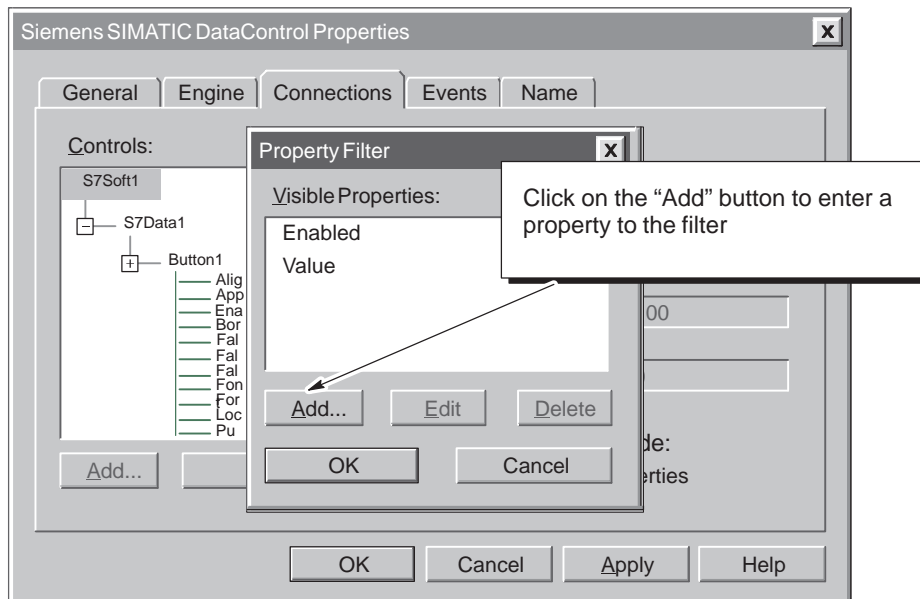

Figure 1-7 Adding Properties to the Filter
- As shown in Figure 1-7, enter the properties to display and click on the “Add” button. Use the “Edit” button to correct entries and the “Delete” button to remove entries.